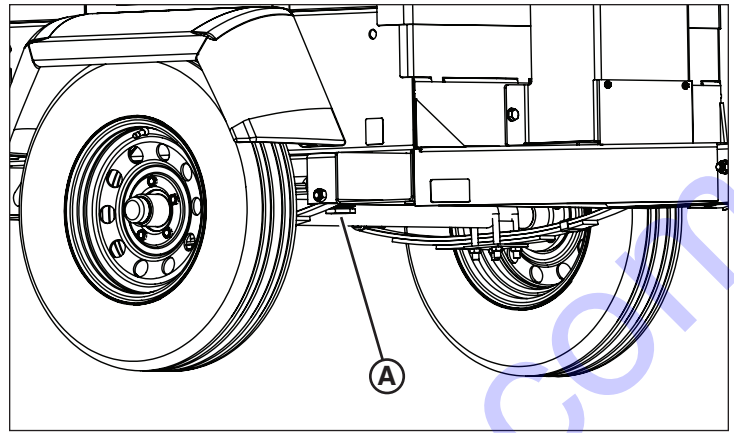

Figure 27
1. Position a suitable container beneath the fluid containment drain (A, Figure 27), located under the right side of the light tower trailer behind the front forklift pocket.